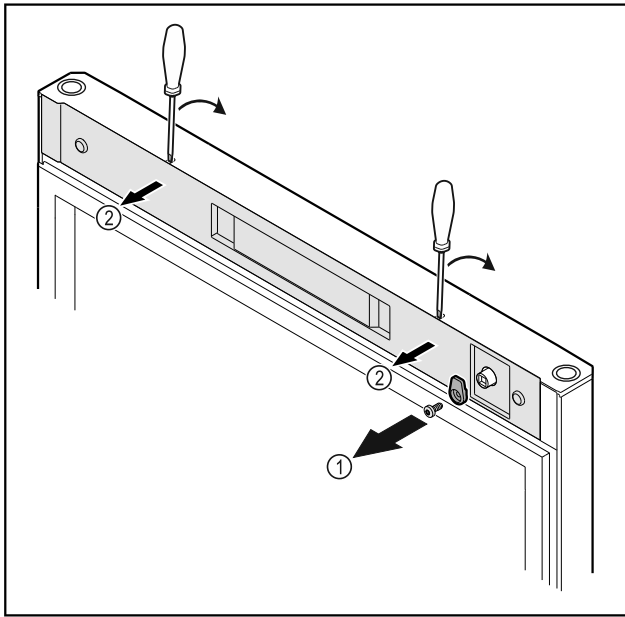

Fig. 20
- ▶ Unscrew the door latch Fig. 20 (1).
- ▶ Unlatch the cover Fig. 20 (2) with a small screwdriver and remove it.